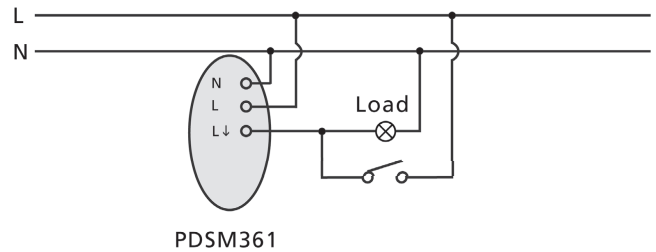

Fig. 5
3.2.3 Lighting is controlled by a PDSM361 (see Fig. 5).